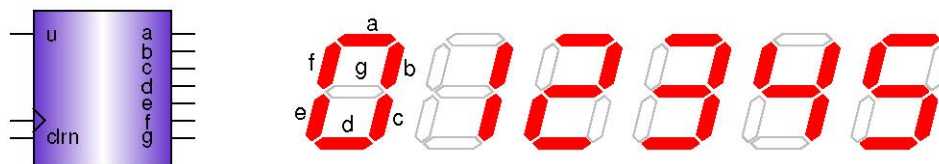
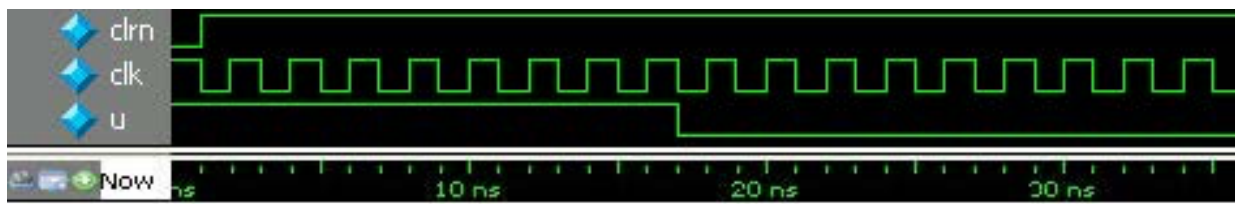

Figure 1 A counter with a seven-segment LED
Figure 6 Test wave form
2. Suppose we design a radix of six up/down counters as shown in Figure 1. The state of the counter changes on the positive (rising) edge of the clock. If the input  $u$  is a 1, the counter value will change in the sequence 0, 1, 2, 3, 4, 5, 0, 1, 2, ... . If  $u$  is a 0, the counter value will change in the sequence 0, 5, 4, 3, 2, 1, 0, 5, 4, ... . There are seven output signals, with each connecting to a segment of LED. A segment of the LED will be on if its control signal is a 0 (active-low).
7. Write a behavioral Verilog code description using the states shown in Figure 1, 2, 3 and Table 1. Compile and simulate your code using the test sequence shown in Figure 6.
- b. Your Verilog® Test Bench design code (use the test sequence shown in Figure 6). Add “timescale 1ns/1ps” as the first line of your test bench file.